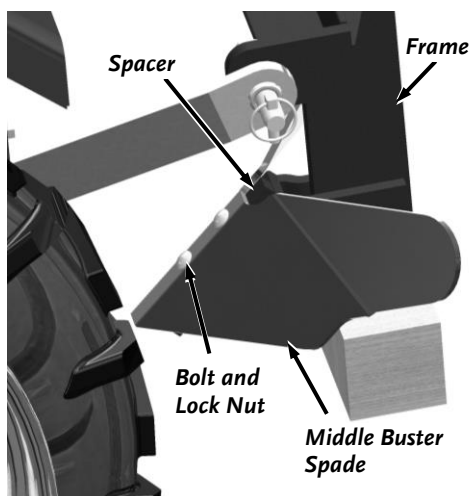

Figure 10
4. Attach the Middle Buster Spacer and Middle Buster Spade to the Frame, securing with two M10 Carriage Bolts and M10 Lock Nuts (**Figure 10**). Tighten using a 16mm Wrench.